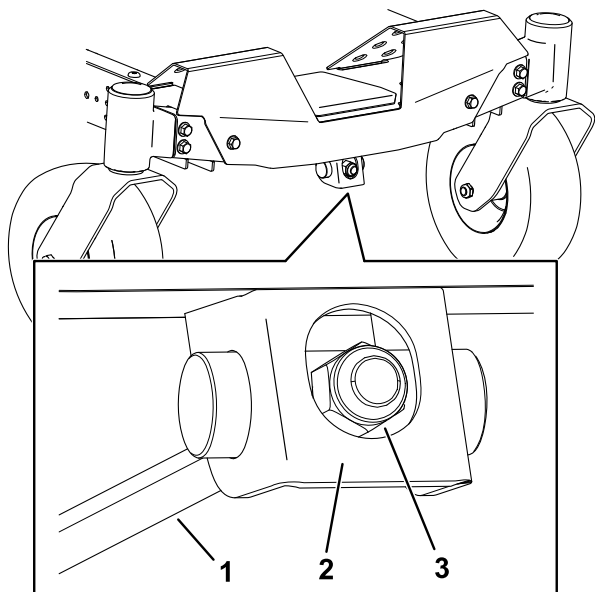

Figure 65
1. Rotate the adjustment nut in the front of the mower (Figure 65).